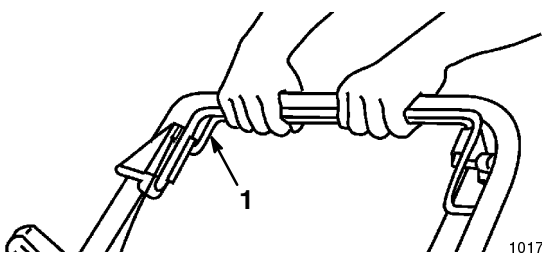

Figure 13
1. To engage the self-propel drive, squeeze the self-propel drive bail against the handle and hold it (Fig. 13).